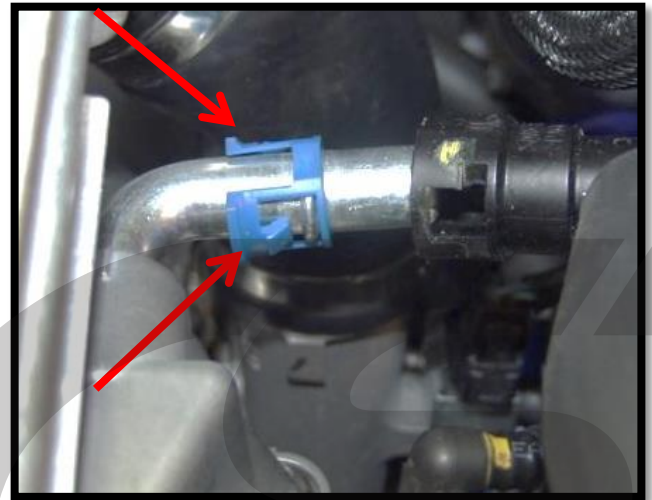

Figure 1d
- e) **Remove the valve cover breather tube.** Push the hose connector toward the valve cover and press both sides of the colored clip simultaneously. Pull the hose away from the valve cover (**Figure 1d**).